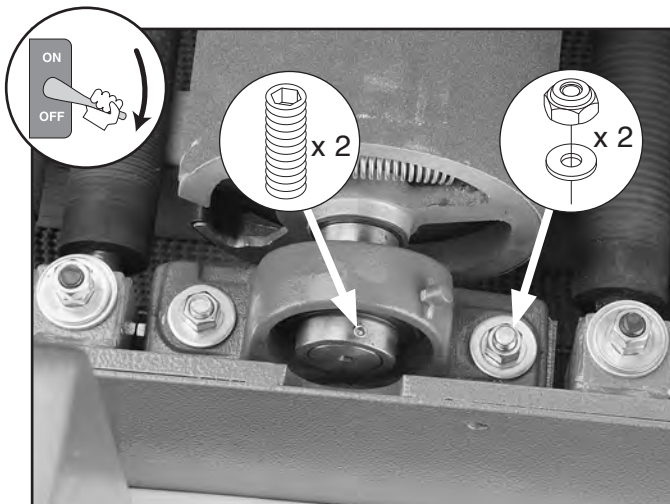

Figure 55. Location of bearing fasteners.
3. Remove lock nuts and flat washers from bearing block assembly on each side of drum, shown in **Figure 55**.
5. Loosen (2) bearing set screws (see **Figure 55**) on each side of drum, then remove bearing assemblies from drum shaft.